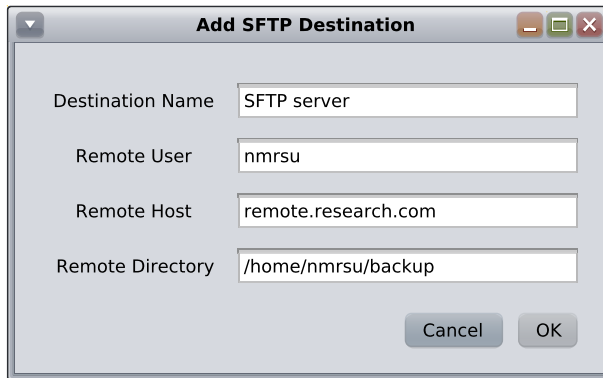

Figure 1.400: Dialog Add SFTP Destination
2. Click **Add SFTP**. An Add SFTP Destination dialog appears (see [Figure 1.400 \[436\]](#)). The dialog provides the following information:
- For SFTP the **Remote Directory** (see Chapter [SFTP Destination \[435\]](#) and [Figure 1.400 \[436\]](#)) must be configured as the Private Location of a remote ParaVision user and installation. The Private Location of a user is defined as